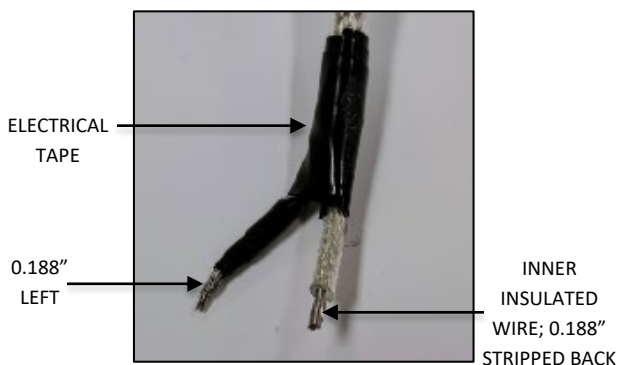
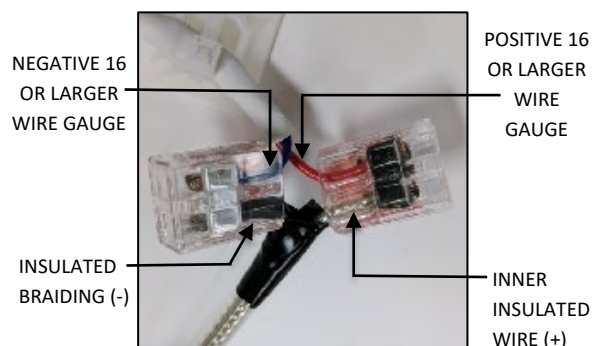

FIG. 21
FIG. 22
- Using electrical tape, insulate the twisted strands leaving 0.188" exposed for connections. Strip off 0.188" of the inner insulation as you normally would for 18AWG stranded core wire as shown in FIG. 21 below. Connect the inner insulated wire (+) to the positive 16 gauge or larger wire ran in step 5 at the hanging bracket and Connect the outer braiding (-) to the negative 16 gauge or larger wire ran in step 5 at the hanging bracket FIG. 22 below.